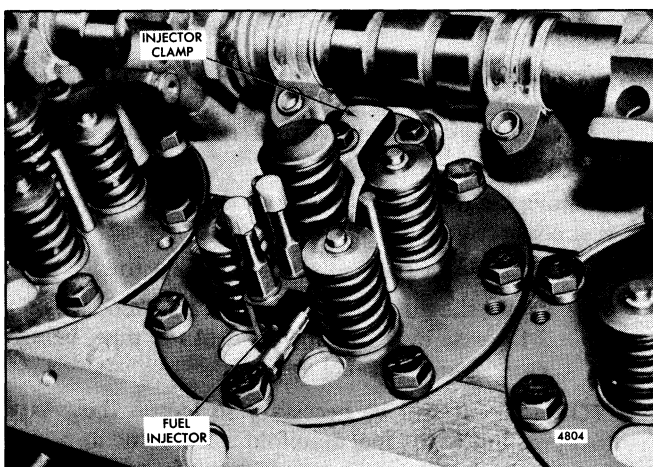

Fig. 7 - Fuel Injector and Clamp
5. Remove the injector clamp bolt, special washer and clamp (Fig. 7).